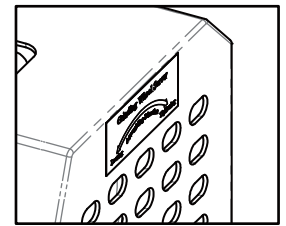

Fig. 10-1
① Unplug the power cord and make sure the power is off.
② Confirm the screw direction on the grinding wheel cover before changing the grinding wheel. (Fig. 10-1)